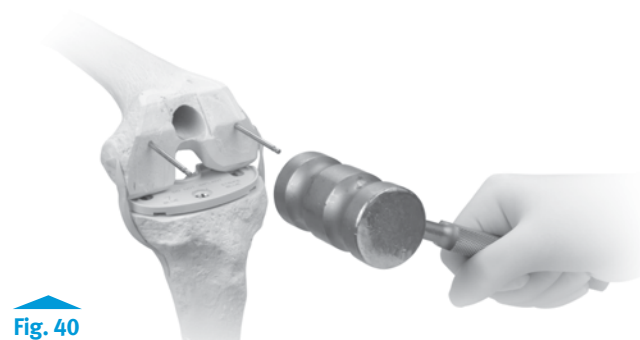

Fig. 40
- Reinsert the Headless Holding Pins (Fig. 40)